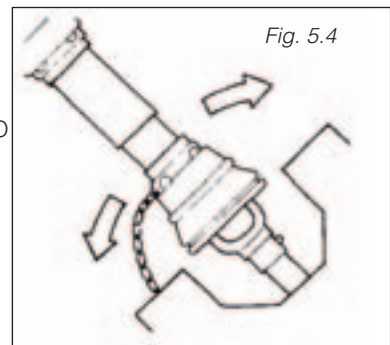

Fig. 5.4
2. Chains must be securely attached to the master shield of the tractor and the guard on the implement, in order to prevent the guard from rotating. Be careful to allow sufficient movement of the shaft in all working and transport positions (Fig. 5.4).